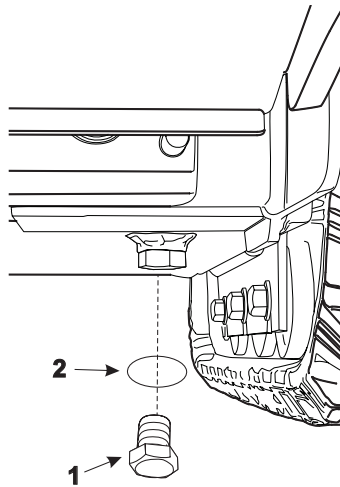

Figure 4-24 Hydraulic Tank Drain Plug
- b. Remove the hydraulic tank drain plug (Item 1, Figure 4-24) and drain all hydraulic fluid from the machine.
NOTE: Make sure to inspect the O-ring (Item 2, Figure 4-24) on the drain plug. Replace the O-ring if any signs of damage are noted.